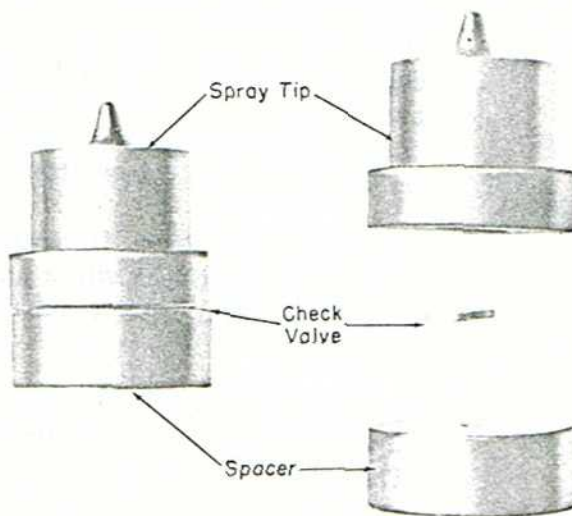

Fig. 21 - Flat Valve, Spray Tip And Spacer Sub-Assembly
5. After dipping the following parts, spray tip, flat check valve and spacer, assemble them into a sub-assembly, Fig. 21.